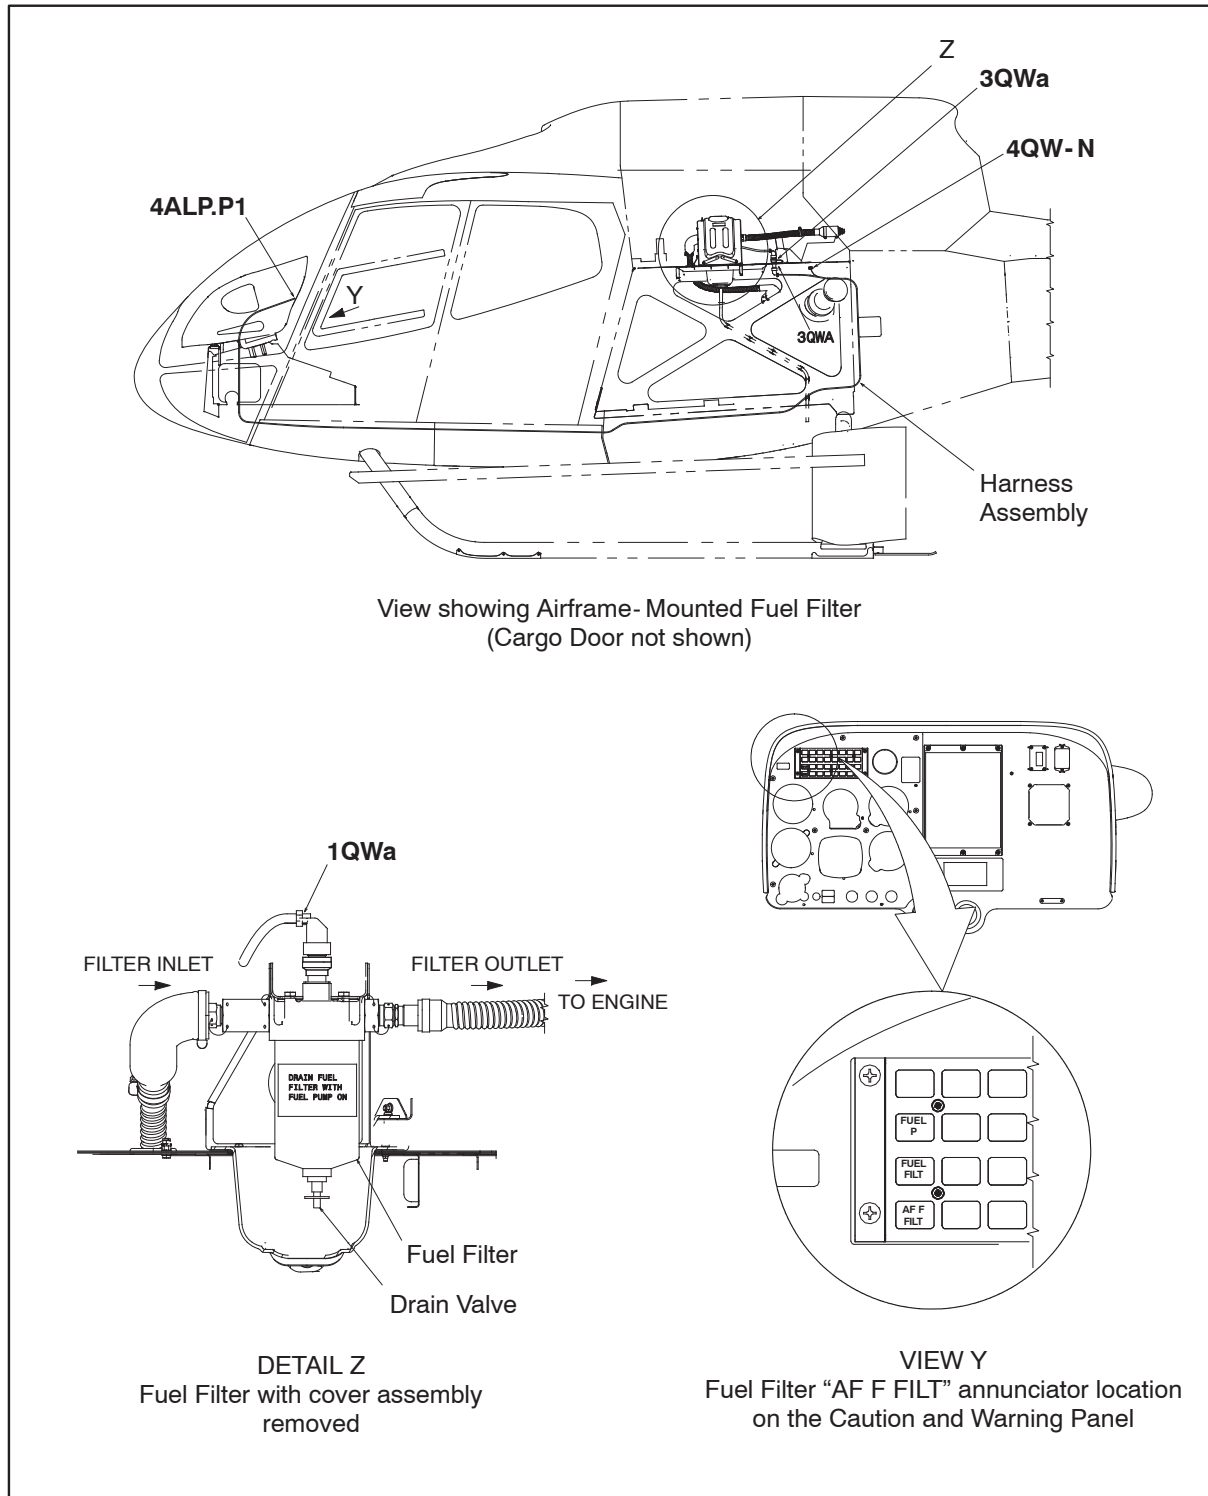

Figure 1 General Layout
- A. The installation of the Airframe-Mounted Fuel Filter provides additional fuel filtering capability upstream of the existing engine mounted fuel filter. The unit has a finer filtration rating than the existing engine mounted fuel filter. Refer to Figure 1 for General Layout.
An "AF F FILT" annunciator warning light will illuminate on the Caution and Warning Panel during flight indicating an impending bypass of the airframe- mounted fuel filter. Refer to Figure 1, VIEW Y.